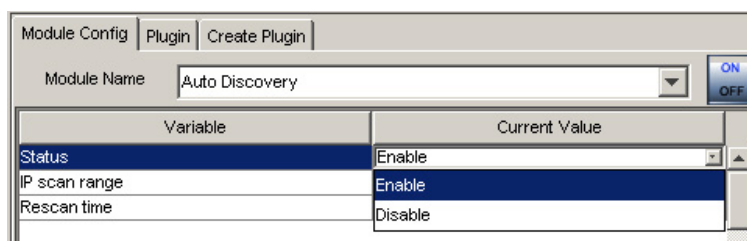

Figure 4-50: Enable/Disable the Auto Discovery
Step 7. You may turn on and off this option by double click on current value under **Status** row (see *Figure 4-50*) or click on the *On/Off* switch beside the pull-down button to enable the option.